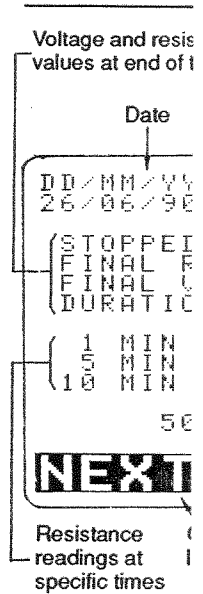

Figure 31 /
5. A typical results screen for an Insulation Resistance test is shown in the illustration of figure 31.